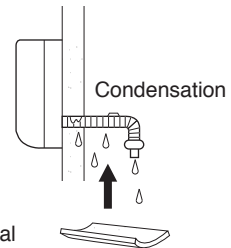

Fig. 44
- If the drain hose will run in the room, insulate the hose with insulation\* so that chilled condensation will not damage furniture or floors. (Fig. 44)